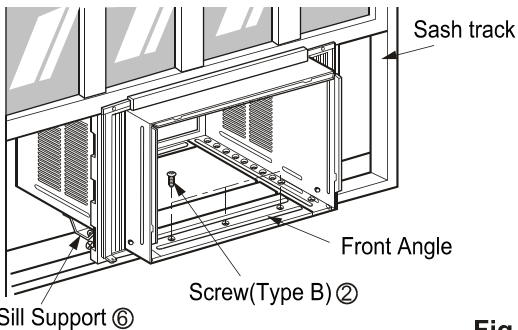

Fig. 5
5. Insert the Frame guides into the bottom of the cabinet. (Fig.5)
6. Insert the Frame Curtain into the Upper Guide and Frame Guides.(Fig.5)
7. Fasten the curtains to the unit with 8 Type A screws. (Fig.5)
6. The cabinet should be installed with a very slight tilt (about 1/2") downward toward the outside (See Fig. 5). Adjust the bolt and the nut of Sill Support ⑥ for balancing the cabinet.
7. Attach the cabinet to the window stool by driving the screws ② [Type B: Length 16mm (5/8 inch) and below.] through the front angle into window stool. (Fig. 5)
8. Pull each Frame Curtain ⑤ to each window sash track, and repeat step 2. (Fig. 5)